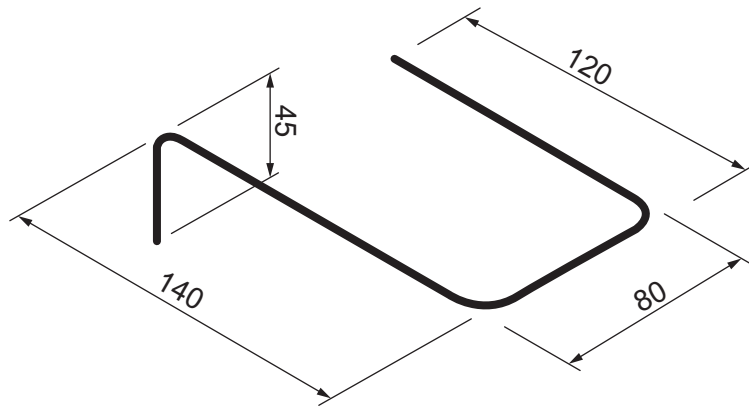

Fig. 12.4
- (c) (i) Fig. 12.4 shows the dimensions of rail **A** in Fig. 12.1. The rail is made from $\varnothing 5$ aluminium rod and is bent to shape. Use sketches and notes to show how rail **A** could be produced. Name all the tools and equipment used.